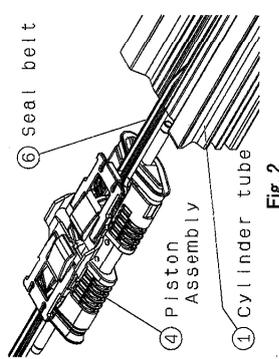

Fig. 2
- 1-2 Referring Fig. 2, insert ③ Seal belt to ④ Piston Assembly and mount it to ④ Cylinder tube.
- 1-3 Keep ③ Seal belt projection of both ends of ④ Cylinder tube the same, then make a slow travel of stroke of ④ Piston Assembly to mount the Seal belt to the cylinder tube opening.
- 1-4 Make ④ Piston Assembly travel the stroke for 2 or 3 times to wipe off excess grease gathered at the Piston Assembly end surface.